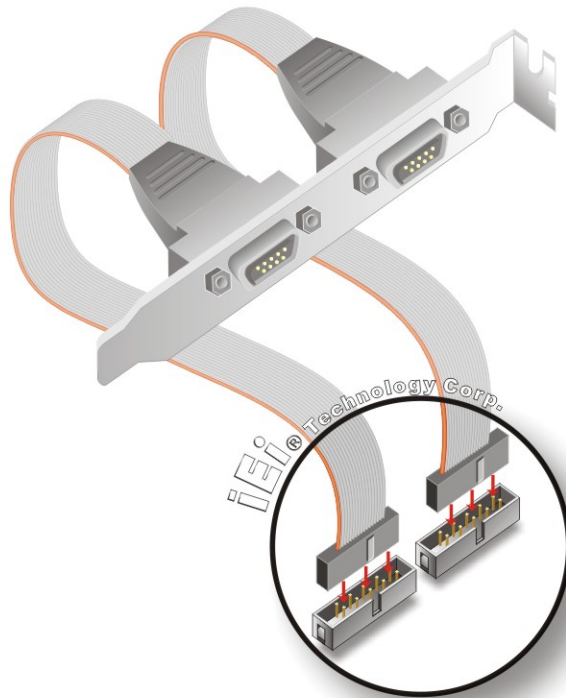

Figure 4-16: Dual RS-232 Cable Installation
Step 2: Insert the cable connectors. Insert one connector into each serial port box headers. See **Figure 4-16**. A key on the front of the cable connectors ensures the connector can only be installed in one direction.